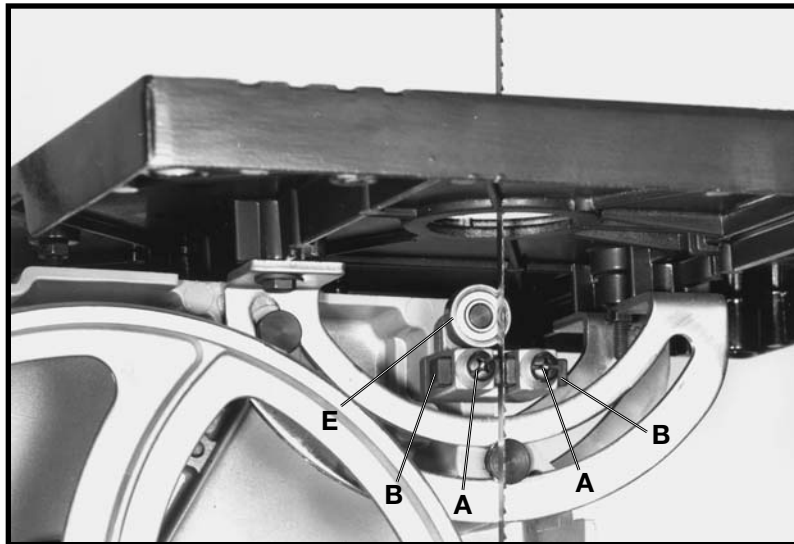
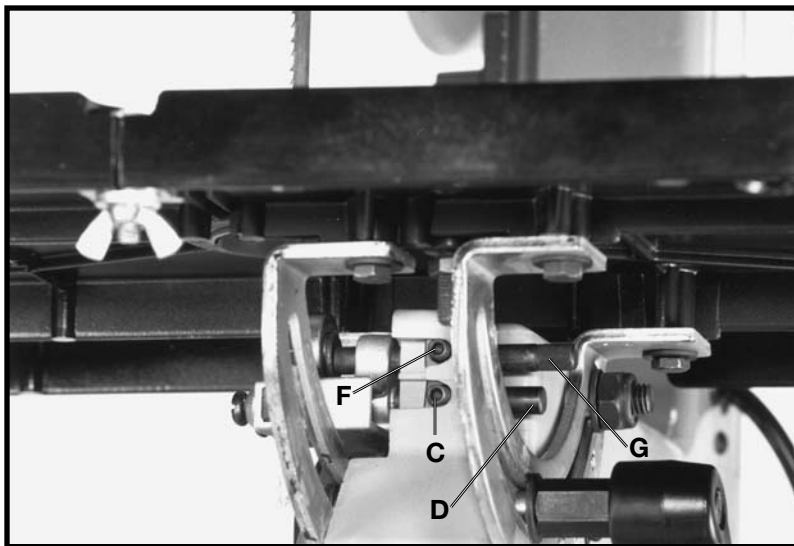

Fig. 25
Fig. 26
2. Loosen the two screws (A) Fig. 25, and move the guides (B) as close as possible to the sides of the blade, being careful not to pinch the blade between the guides. Then tighten the two screws (A).
3. The front edge of the guide blocks (B) Fig. 25, should be adjusted so they are just behind the “gullets” of the blade teeth by loosening screw (C) Fig. 26, and moving shaft (D) in or out as desired. Then tighten screw (C).
4. The lower blade support bearing (E) Fig. 25, should be adjusted to support the rear of the blade during the cutting operation and also prevent the blade from being pushed too far to the back which could damage the set in the blade teeth. The support bearing (E) Fig. 25, should be set about 1/64" behind the blade by loosening screw (F) Fig. 26, and moving shaft (G) in or out. Then tighten screw (F).
5. The lower blade support bearing (E) Fig. 25, should also be adjusted so the back edge of the blade overlaps the outside diameter of the ball bearing by approximately 1/8 ". The bearing shaft (G) Fig. 26, is on an eccentric and to change position, loosen screw (F) and rotate shaft (G) until correct adjustment is made. Then tighten screw (F).